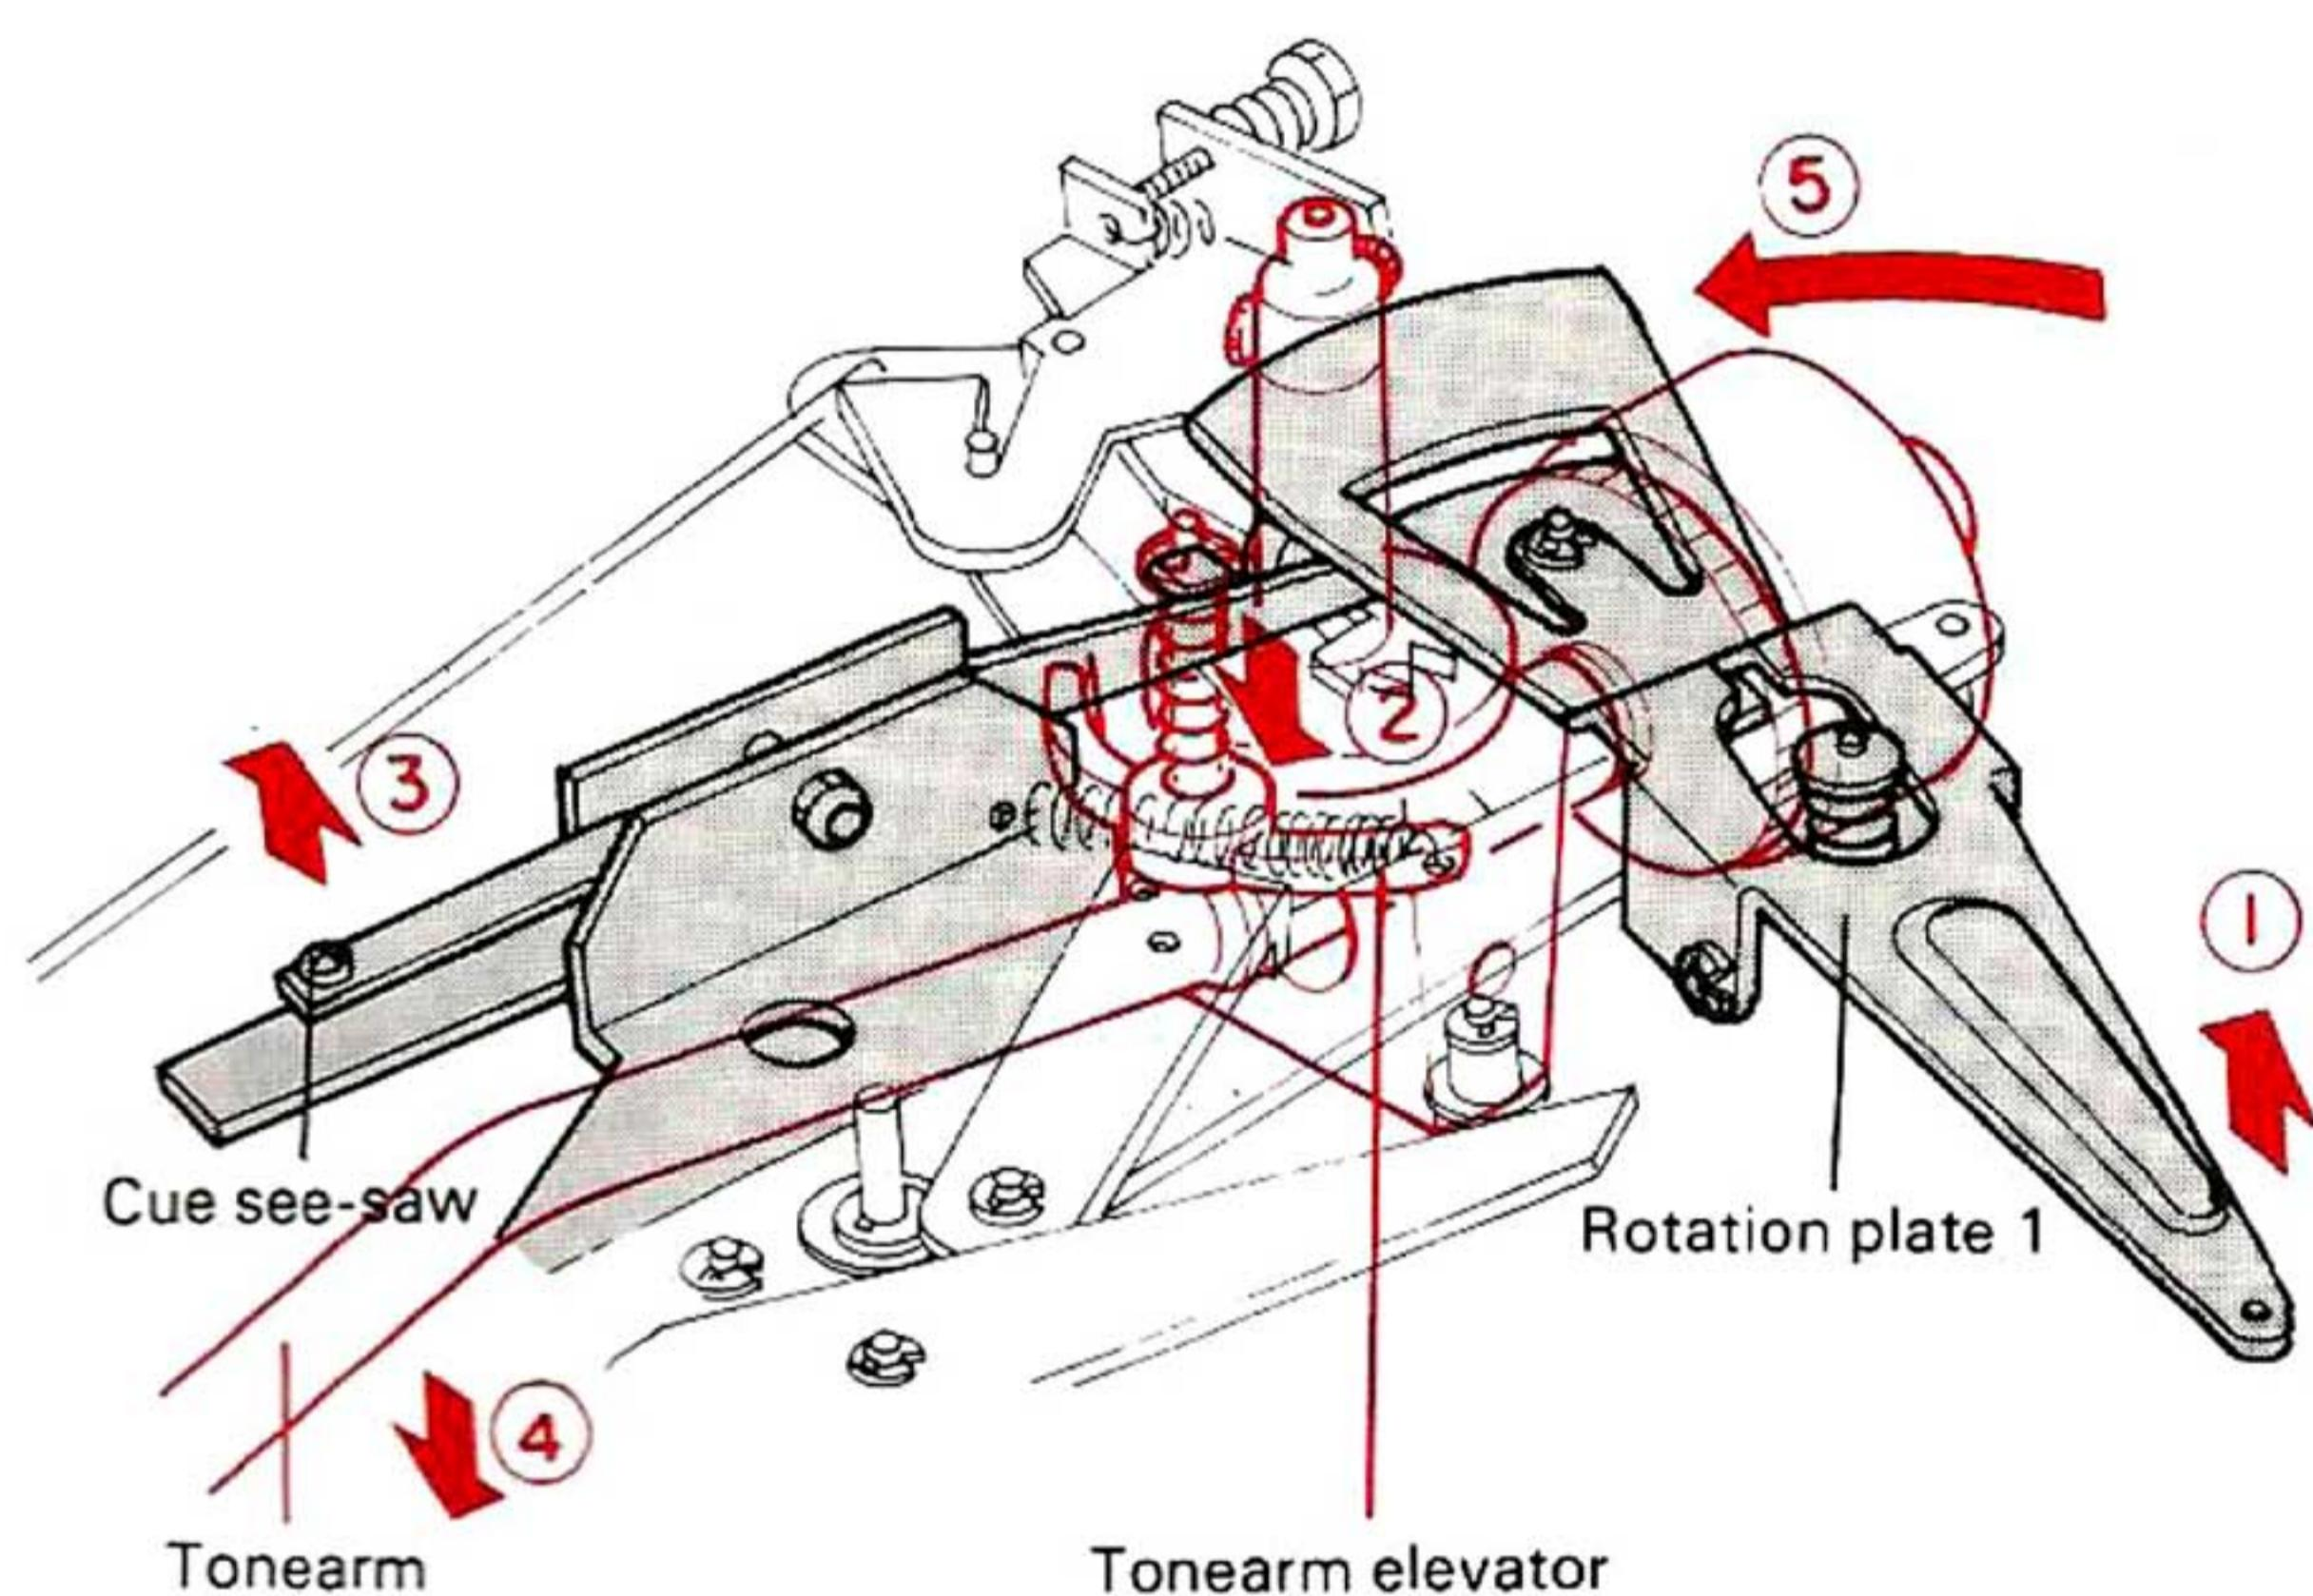

Fig. 5 Elevation of Tonearm
As the main gear rotates, the depth of the groove in which rotation plate 1 is engaged becomes shallower and rotation plate 1 rises in direction ①. The cue see-saw also moves in direction ② to lift the tonearm elevator, resulting in the elevation of the tonearm (Fig. 5).